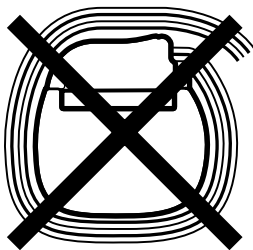

Figure 12. Do not wrap or coil the extension or adaptor wire around the perimeter or in front of the neurostimulator.
- Do not wrap or coil the extension or the adaptor wire around the perimeter or in front of the neurostimulator (Figure 12). Wrapping around the perimeter of the neurostimulator increases the potential for the wires to slip between the neurostimulator and the adaptor. Placing wires in front of the neurostimulator increases the potential for kinking of the extension and adaptor wires, for interference with telemetry and/or recharge operation, and for damage during future neurostimulator replacement surgery.